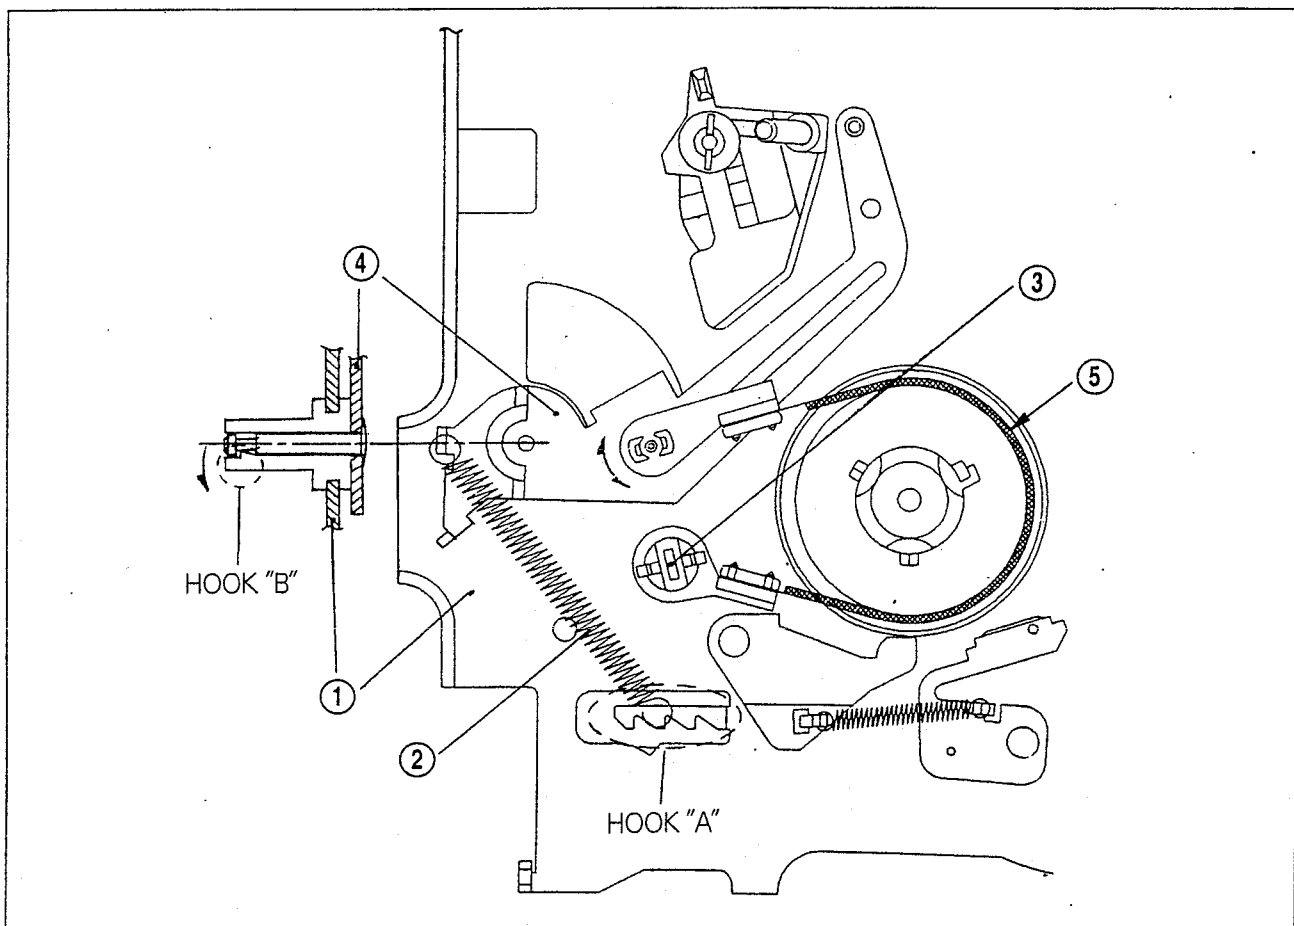

Fig. 3-8
9. REPLACEMENT OF THE TENSION LEVER ASS'Y (See Fig. 3-8)